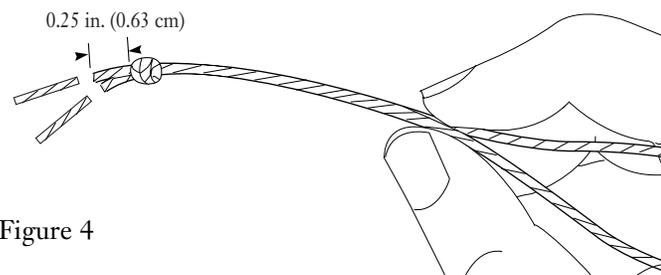

Figure 4
- c) Trim the loose ends to within a 1/4 inch (0.63 cm) of the knot (Figure 4).